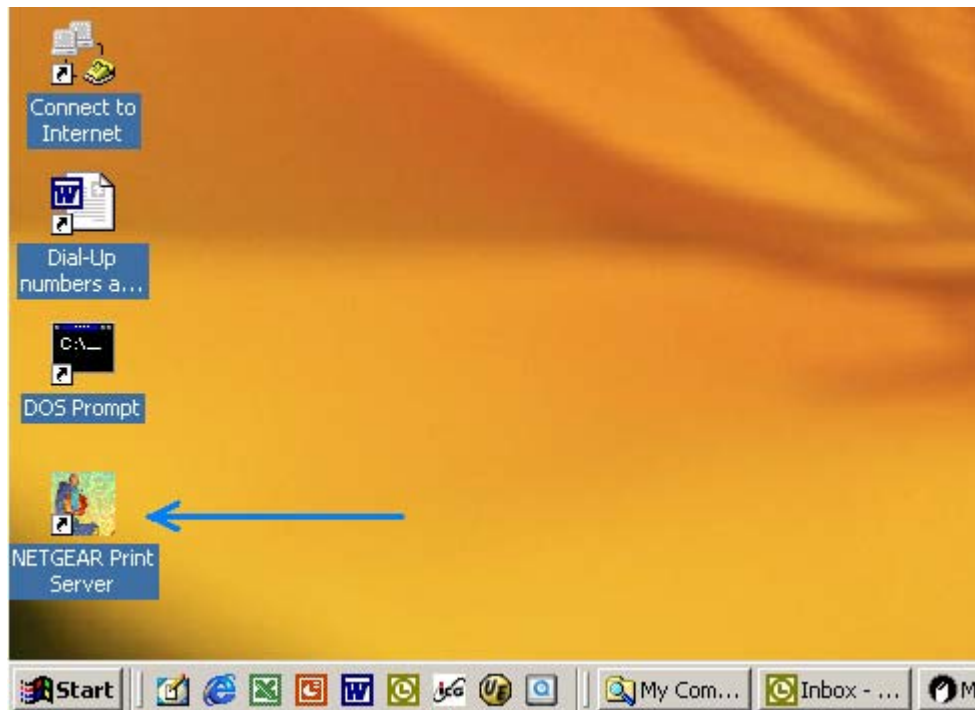

Figure 4-9 NETGEAR Print Server software Icon
You can open and access the group from your desktop as well. See Figure 4-9 in the next section.
1. Double-click on the desktop icon, as shown in Figure 4-9.